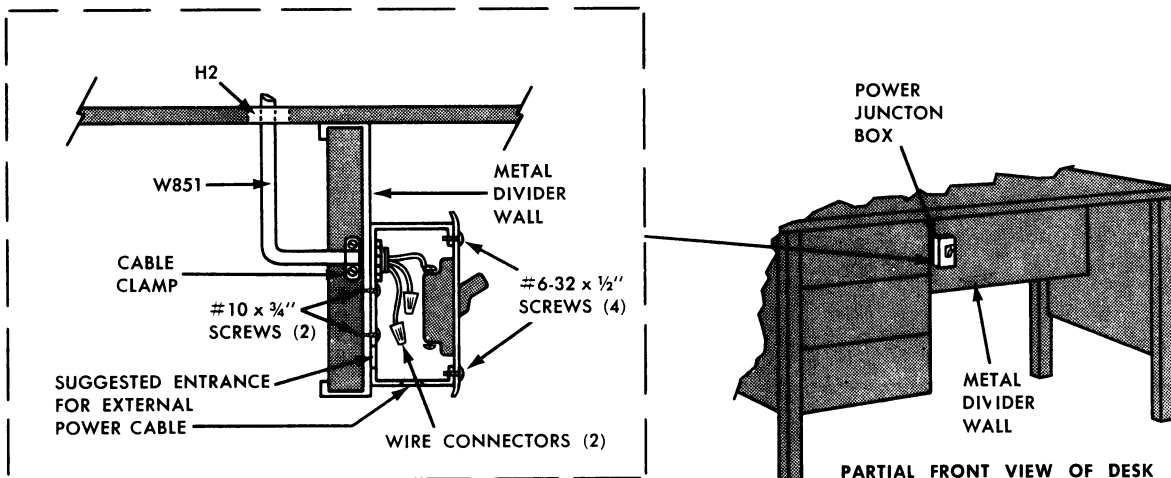

Figure 5 - Alternate Location for Power Junction Box
If it is desirable to switch console power ON and OFF from the front of the desk, use the alternate location shown in Figure 5 for installation of the junction box.
The power junction box may be installed on the metal divider wall, as shown in Figure 5, to permit control of the power ON-OFF function from the front of the console.
2. Remove two "knockouts" from the power junction box for input and output cable connections. (Refer to Figure 5 for suggested cable entrance locations.)